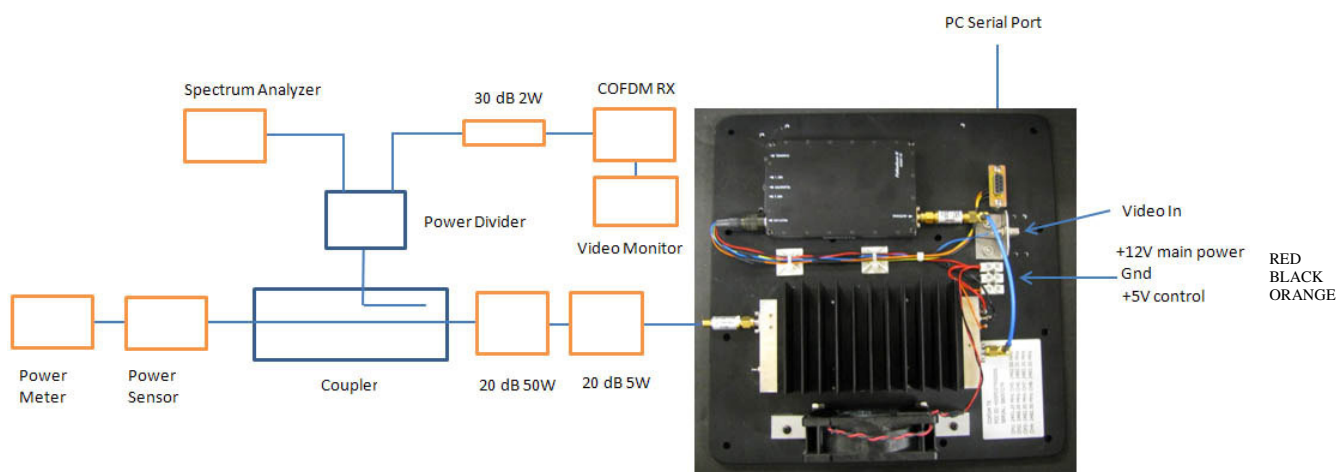

FIGURE 1
2. Connect the power supplies to the DUT terminal block as shown in Figure 1 using suitable gauge wire. 18 AWG for 12 volt, 24 AWG for the control.
1.	Set up the test equipment as shown in Fig. 1.